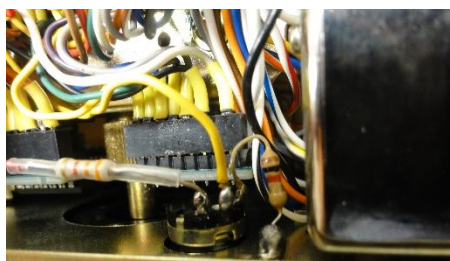

Figure 8
- Solder the two resistors R14 (1k Ω) and R15 (3.3k Ω) in the swapped positions to the CALIB potentiometer VR6 (5k Ω), see Figure 8